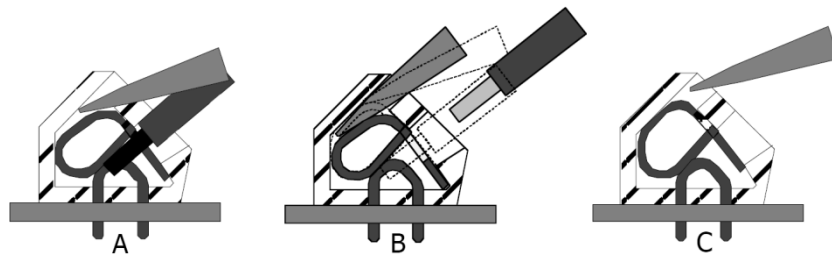

Figure 51 Removing connections in screwless spring-loaded terminals
- Place a size 1 screwdriver in the upper opening and insert it turning slightly upwards (figure 51 A).
- Then draw the wire from the lower opening (figure 51 B).
- Withdraw the screwdriver (figure 51 C).